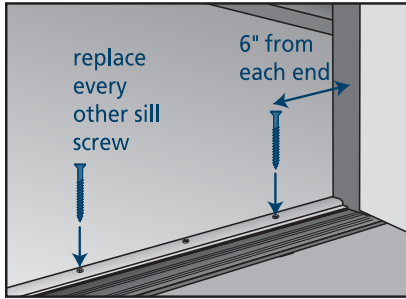

Fig. 29
- Da. If door has a **traditional threshold**, secure as follows (**Fig. 29**):